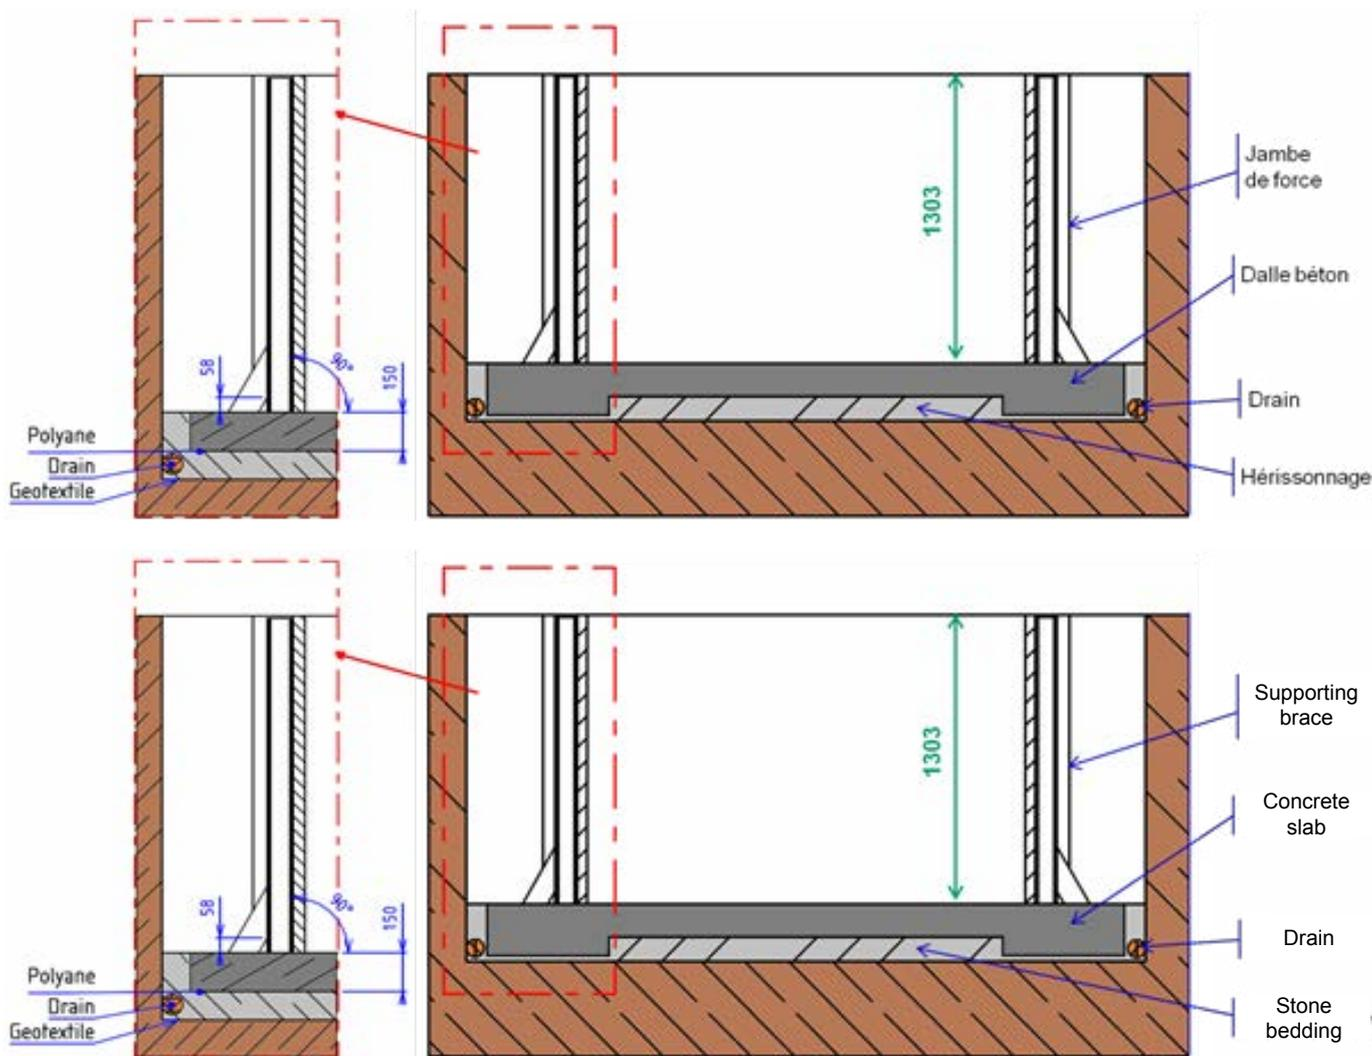

Figure 4 – Location of the supporting braces
coping, see *Figure 4*), measure 1.303 m and mark this distance on the front of the supporting brace. This mark will correspond to the height of the finished concrete slab.
- ❗ Check that all the dimensions quoted in *Figure 4* are correct before proceeding with the next step.